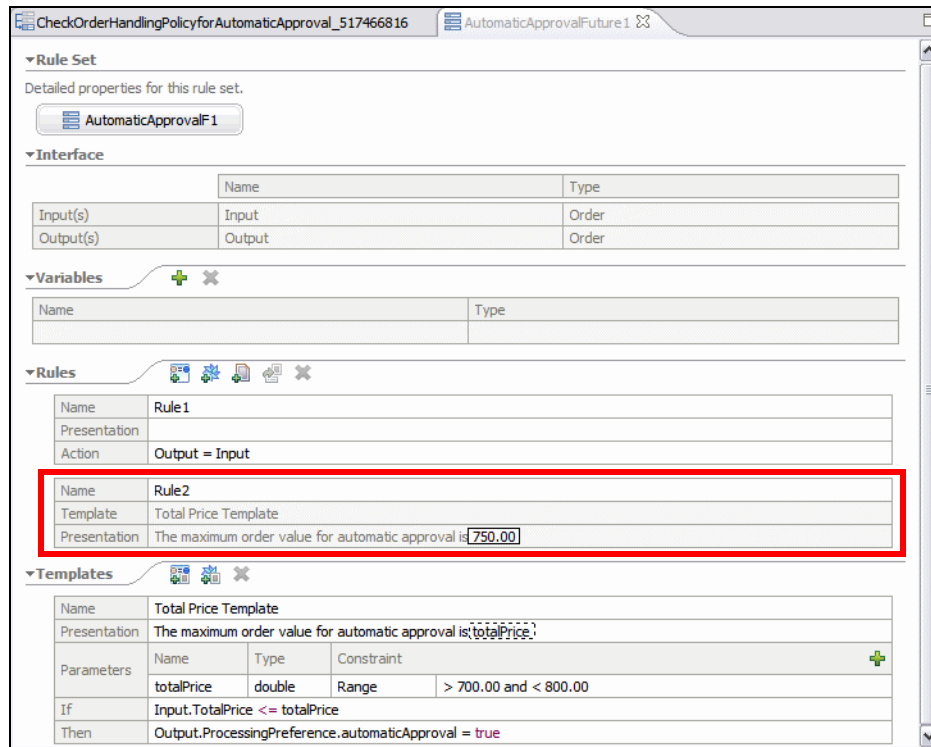

Figure 10-28 Final business rule using a template
- ▶ Overtyping *Enter Value* with 750.00 (Figure 10-28). Orders with a total price lower than \$750.00 are automatically approved. However, we have the facility to alter this limit at runtime, as long as the new limit is between \$700.00 and \$800.00. We will illustrate this in “Using the Business Rules Manager” on page 295.